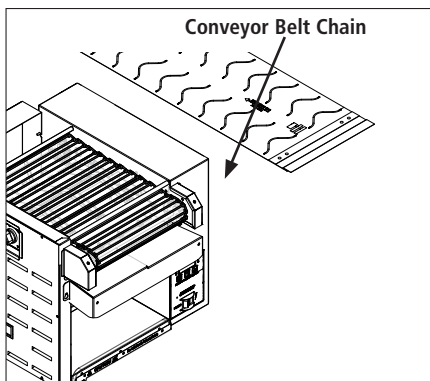

Figure 8. Conveyor Chain
8. If the chain can be pulled more than 1.5" (3.8 cm) above the top of the Center Support Cover (Figure 8), remove links as described in the section titled Adjusting Conveyor Belt Chain.